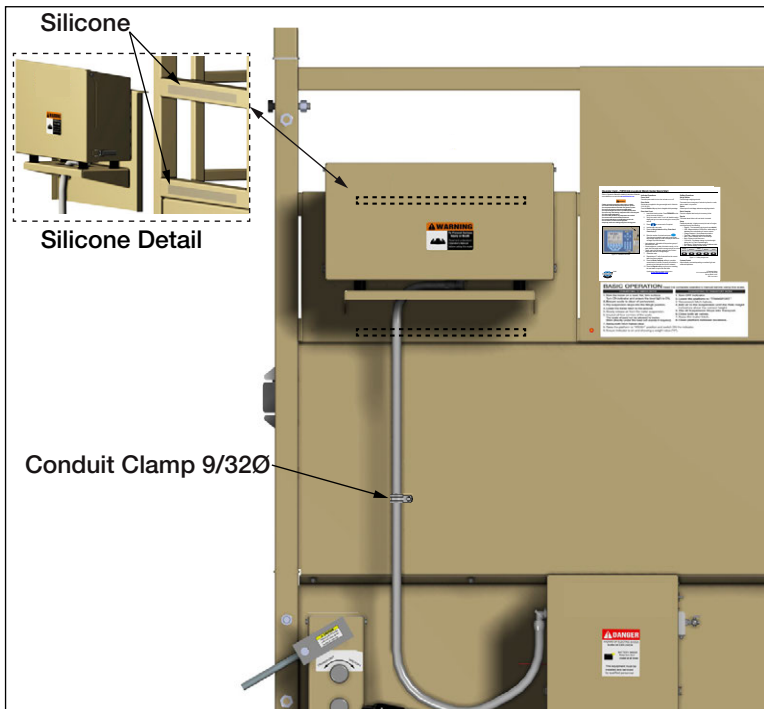
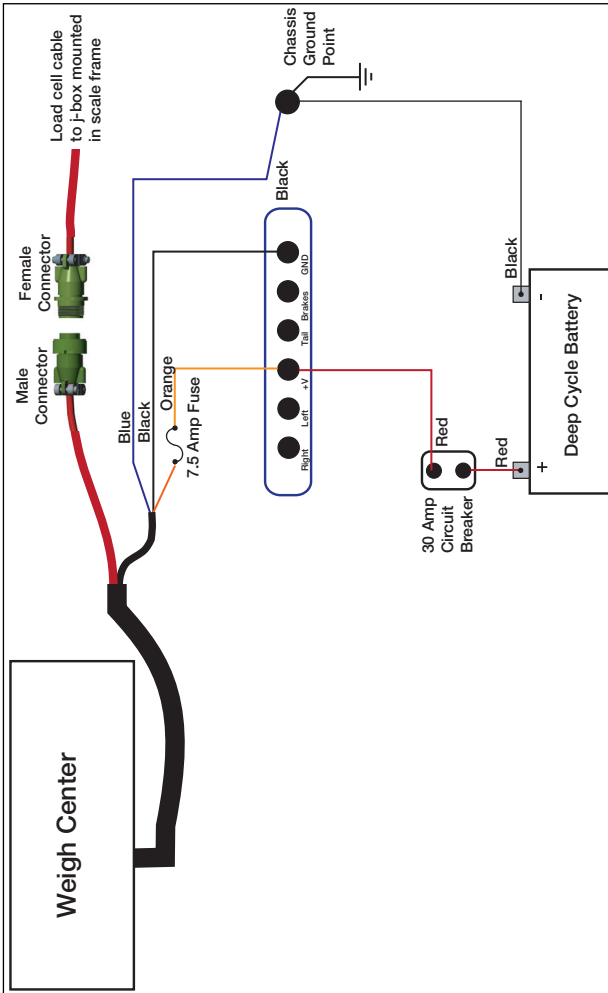

Figure 1-10. Weigh Center Mounting
Figure 1-11. Wiring Diagram
Use the following steps to mount the 920i Weigh Center to the animal scale (see Figure 1-10 on page 15 and Figure 1-11 on page 16).
2. Connect the power wires as shown in Figure 1-11 on page 16.